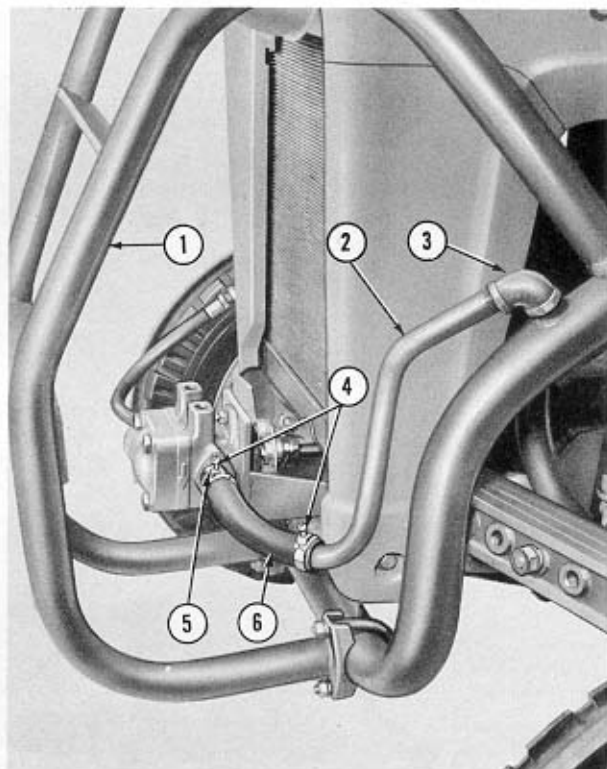

Figure 8
- b. Assemble the 1" to  $\frac{3}{4}$ " reducer bushing (5), Figure 8, and the nipple. Turn the assembly into the loader hydraulic pump.
- c. Turn the  $\frac{3}{4}$ " pipe elbow (3), Figure 8, onto the outlet. Install the pipe (2) in the elbow.
- d. Install the hose section (6), Figure 8, and clamps (4) as shown. Tighten the clamps securely.
8. Attach the loader bumper (1), Figure 8, to the loader main frame with the four U-bolts, lock-washers and nuts provided.
- b. Disconnect the hose section (6), Figure 8, from the left side of the hydraulic pump by loosening the screw clamp (4).
- d. Attach one end of a length of hose to the nipple (5), Figure 8. Place the other end in the oil or kerosene to be used for flushing.
- f. Replace the drain plug in the loader frame and reattach the hose (6), Figure 8. Retighten the clamps (4) securely.